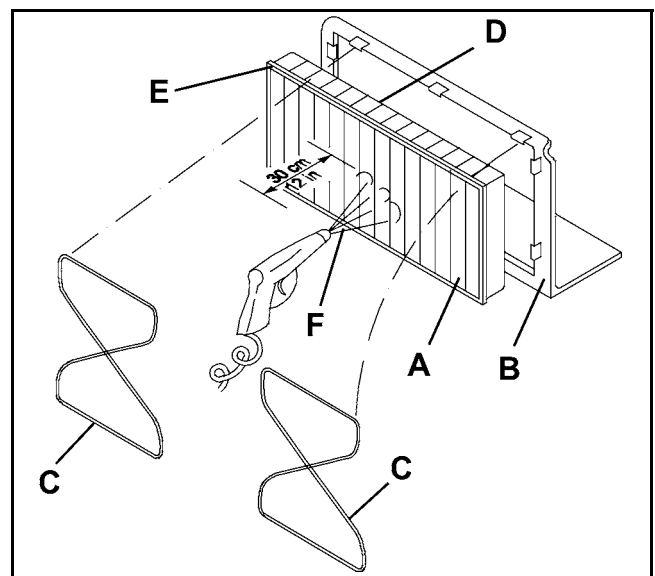

Figure 19
7. Remove the filter (A, Fig. 19) from the frame (B) by disengaging the rubber bands (C).
8. In an appropriate outdoor area, clean the filter by shaking it on a level and clean surface, tapping the side (D, Fig. 19) opposite to the gasket (E).
- Complete the cleaning procedure by using compressed air (F) at maximum 90 PSI (6 Bars), blowing only from the side of the gasket (E), at a minimum distance of 12 in (30 cm).
9. Clean the bearing surface of the filter rubber gasket (E, Fig. 19) and check it for integrity and sealing capabilities. If necessary, replace the filter.
Assemble the filter with the gasket (E, Fig. 19) positioned as shown in the figure.